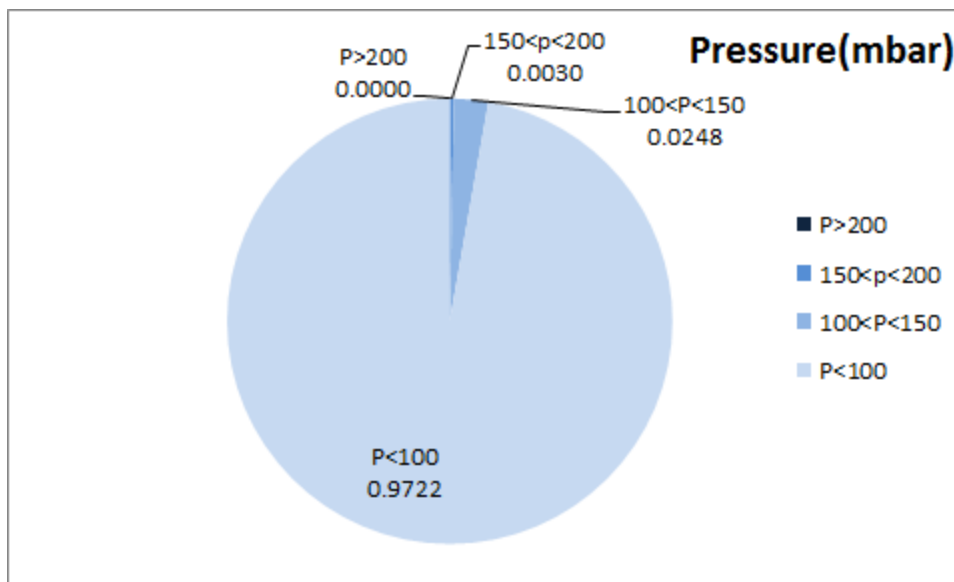

Figure 1- Pressure distribution over the working hours
- As depicted in Figure 1, pressure above 200 mbar can't be obtained and only 0.3% of total working-time pressure is above 150 mbar.